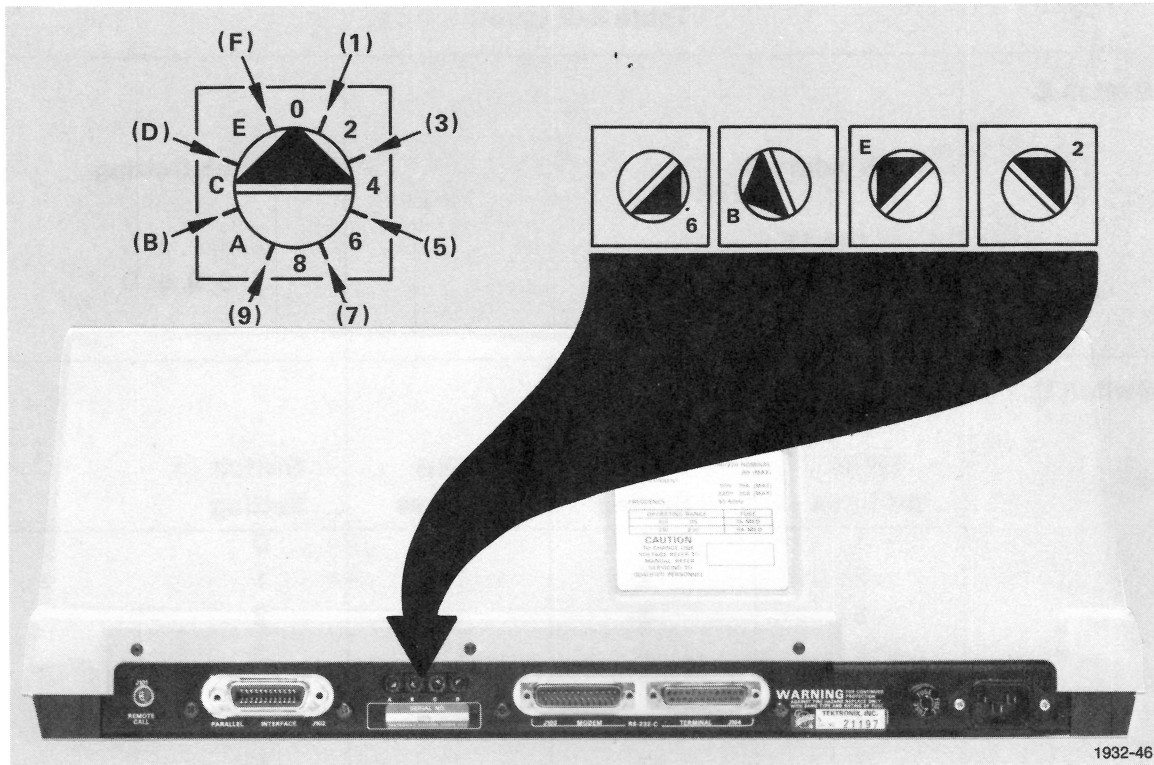

Figure 8-9. Plotter switch positions and locations.
3. Set the Plotter's rear-panel switches (Figure 8-9), as indicated in Table 8-2.